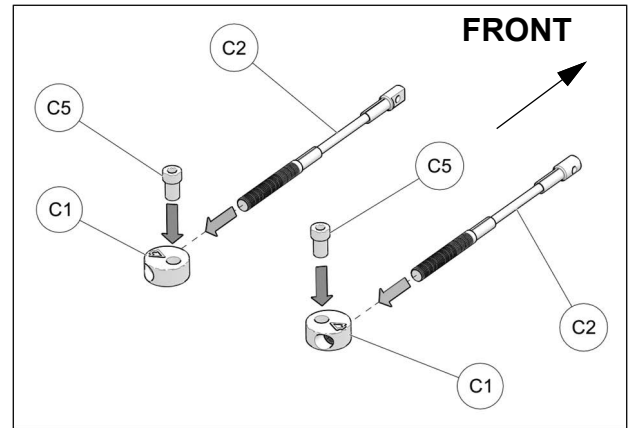

Fig. 23
13. Assemble steering limiter cables (C2), aluminum disks (C1) and step spacers (C5) together as shown on Fig. 23